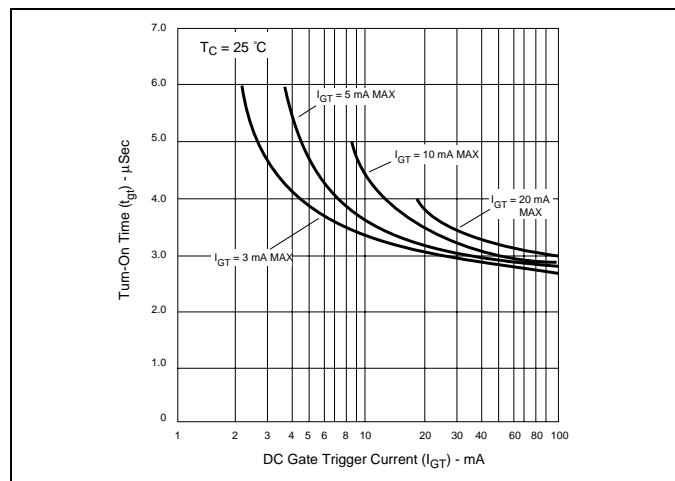

Figure E1.8 Turn-on Time versus Gate Trigger Current (Typical)
- See Figure E1.8 for  $t_{gt}$  versus  $I_{GT}$ .